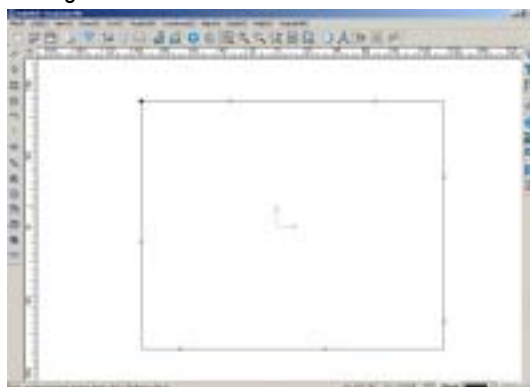

Fig. 6-17
6. Click on **Yes** to reverse its direction, and click on **No** to remain its direction unchanged. (Fig. 6-17)